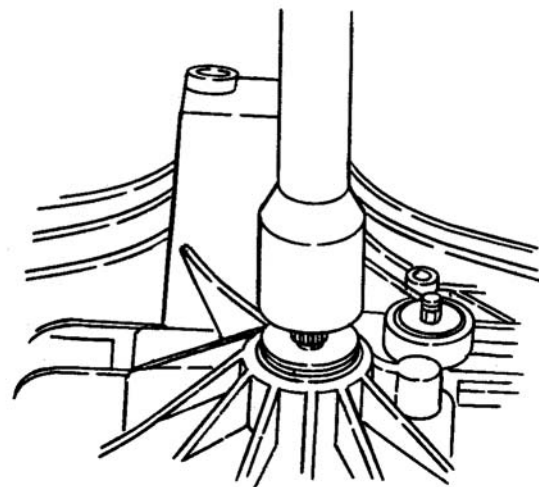

Figure 6-49. Input Shaft Seal Installation
- d. Slide seal over shaft and press it into housing bore. Be careful not to damage seal. The seals should seal against retaining ring. See Figure 6-49.